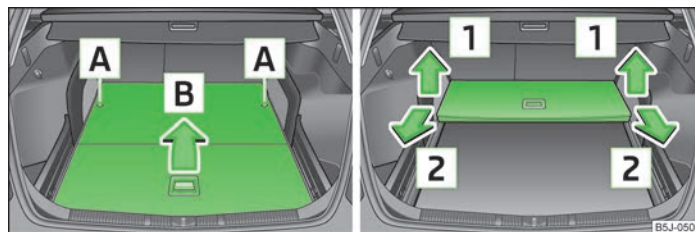

Fig. 51 Fold up variable loading floor/remove
- › Unlock the variable loading floor by turning the locking bolts **A** to the left by around 180° » Fig. 51.
- › Fold up the variable loading floor in the direction of the arrow **1** » Fig. 51 and remove by pulling in the direction of the arrow **2** » Fig. 51.